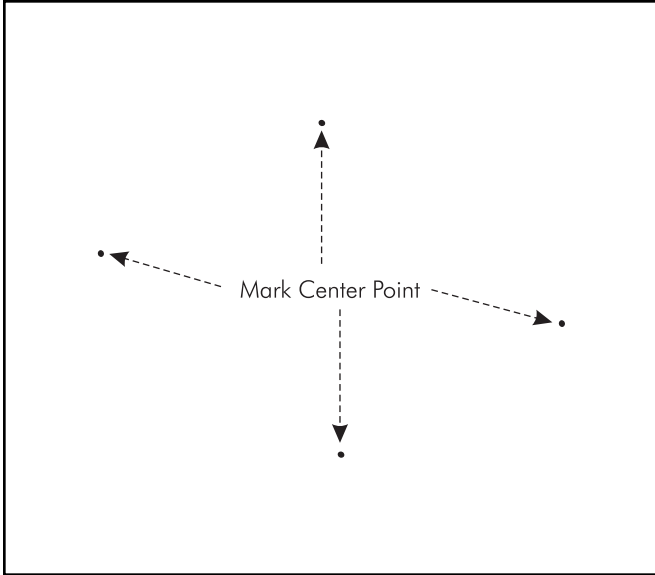

Figure 19. Attaching the Fresco to a wall or ceiling—step 3.
NOTE: Figures 19–24 illustrate the Fresco mounted in 4 different configurations.
- 3 Mark your wall with the center point for the wall bracket (see figure 19).